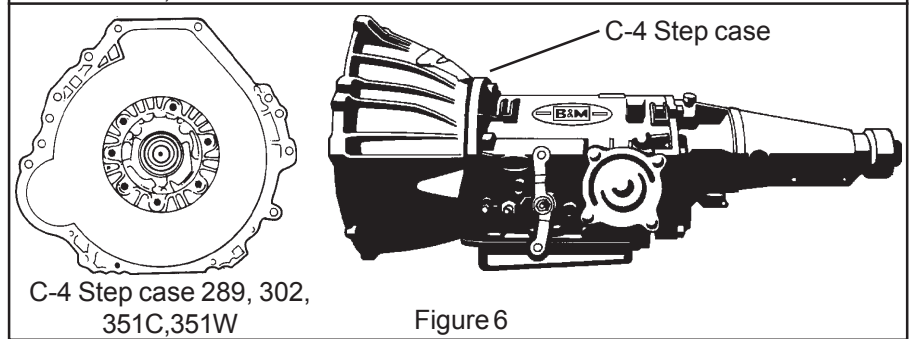
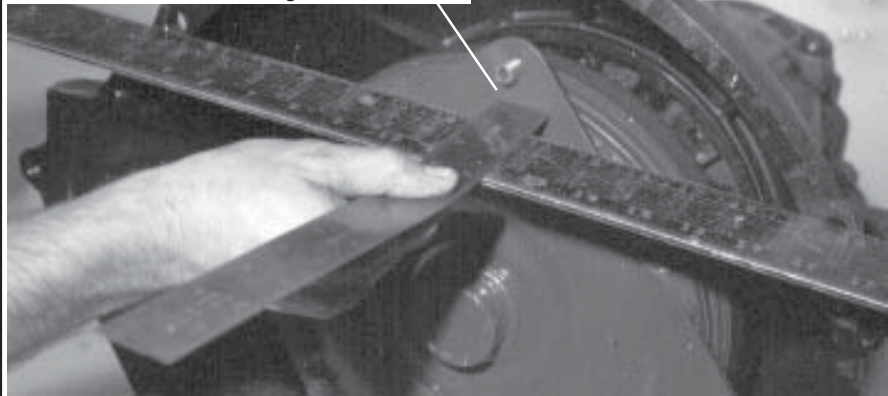

Figure 6
Figure 7
**STEP 7.** Remove dipstick and tube assembly. Remove torque converter, cover pan bolts and remove converter cover pan (see Fig. 6). Remove flexplate to converter bolts (see Fig. 7). Use starter motor to "bump" each bolt into position.
**2. Pump Mount:** The bellhousing bolts to the transmission with the same bolts that hold the oil pump. (See Fig. 6) There is a 1/4" gap between the case and the bellhousing.
converter to engage input shaft, stator shaft and oil pump rotors. Place a straightedge across the face of the transmission bellhousing. Measure the distance from the face of the bellhousing to the base of the torque converter drive stud. (See Fig. 7) The base of the stud must be at least **13/16" (4 cyl-351 V-8) or 1-1/8" (360 Larger-V-8) inside the bellhousing**. A measurement of less than 13/16" (4 cyl-351 V-8) or 1-1/8" (360-Larger V-8) indicates the torque converter is not fully engaged in the transmission, except torque converters specially built for motor plate applications. (Subtract the thickness of your motor plate from the 13/16" or 1-1/8" dimension for proper measurement.) Continue to rotate and turn the converter to obtain full engagement. **If you install the transmission without full converter engagement, you will damage the oil pump and/or converter.**